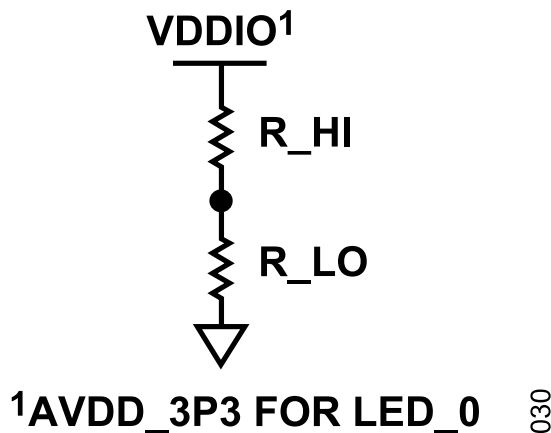

Figure 28. Hardware Configuration Pin Implementation
Hardware configuration pins are pins shared with functional pins and the voltage level on the pin is sensed and latched upon exiting from a reset. Some hardware configuration pins are multilevel sense, while others are two-level sense. Using two resistors, R_LO and R_HI (see Figure 28), four different voltage levels can be sensed, as shown in Table 21. Only MODE_1 (L) and MODE_4 (H) are relevant to the two-level sense pins and these are implemented with a 10 k Ω pull-down resistor or a 10 k Ω pull-up resistor, respectively. Note that LED_0 must be pulled up to the AVDD_3P3 rail rather than VDDIO.